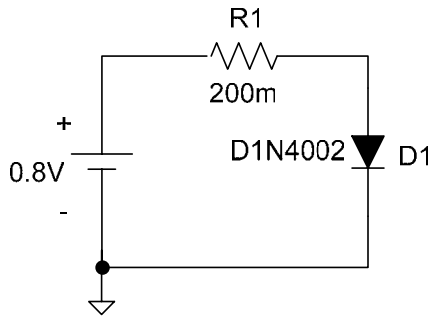

Figure 1
8. Draw and complete the diode circuit shown in Figure 1 in which $R = 200\text{m}\Omega$. You can click the left mouse on the device or element and choose *Attributes* from the Edit menu. Alternatively, you can change the attributes of any devices or elements by double clicking the left mouse and giving new values.
9. Analyze the circuit of Figure 1 by choosing *Analysis* from Schematic menu.